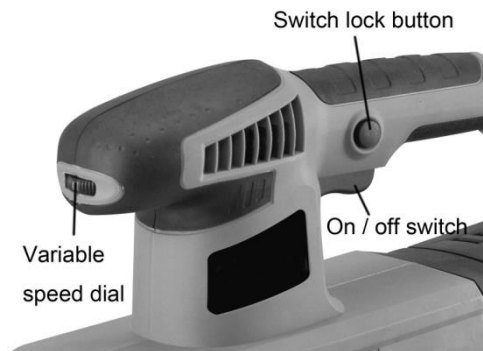

Fig.4
2. Switching on/off(Fig.4)
3. Variable speed dial (Fig.4)